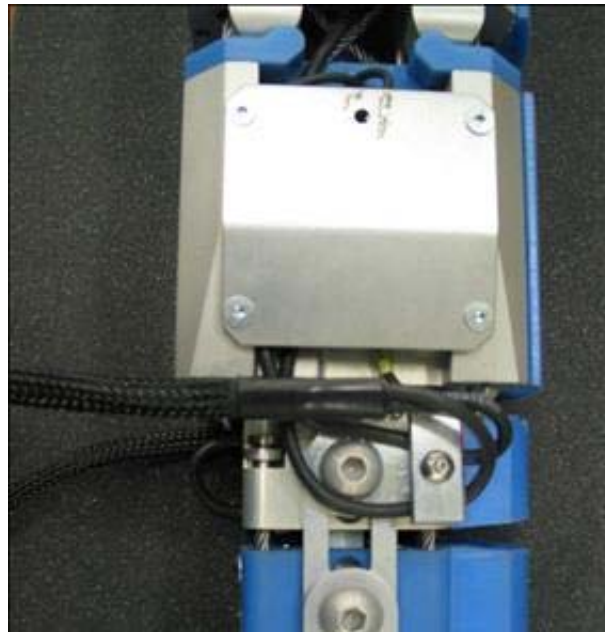
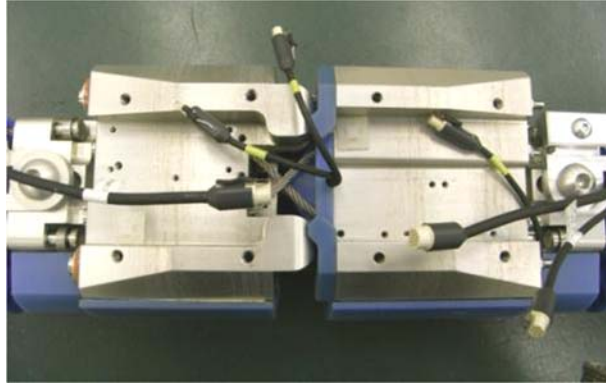

Figure 17 . Clamping Arrangement and Position for Off board Wires
Figure 18 . Off Board wiring left hand side of impact face
For off board DAS umbilical cables of 10m long exit the leg just below the knee. This position is close to the CG of the leg to minimize the mass affect from the cables in free flight. The cables are clamped to the leg via the top shoulder link bolts of the tibia to provide restraint protection to the connectors see Figure 17. If off board cables are not used the clamps should be replaced with washer 133-5105 item 16 in Figure 67. See Figure 18 for left hand side wiring arrangement. The connectors at the off board DAS side are specified by the customer and fitted by Humanetics as all users have different systems.
It is important to route the off board cables out of the knee to ensure good free flight to the target. See Figure 17 for an example. Users can establish their own wire routing but the important issues to note are that both sides are balanced and there is no restriction at release from the pusher plate when fired.